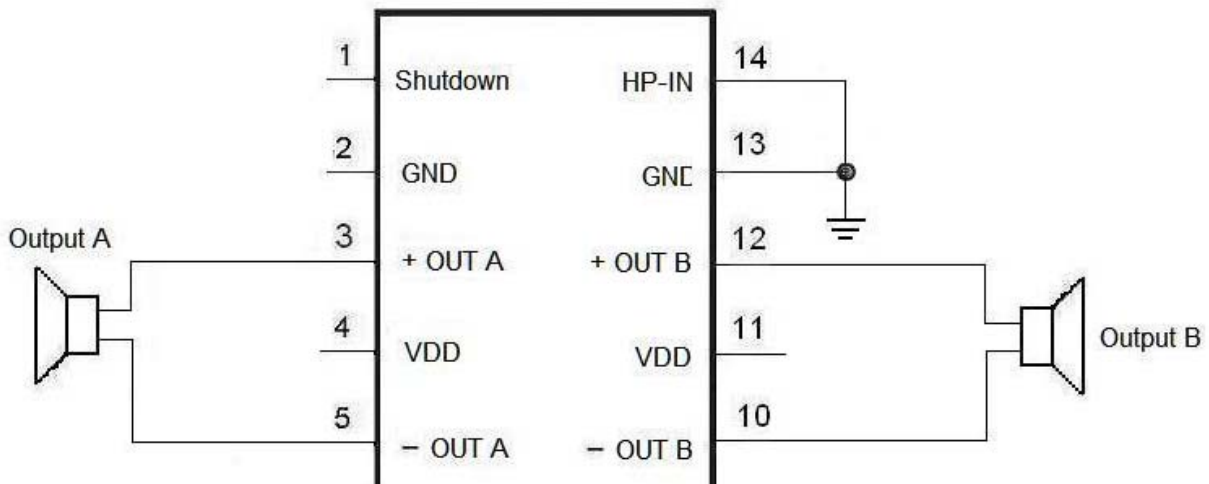

FIGURE 4. Without Headphone Circuit
As outlined above driving the Speaker (BTL) and Headphone (SE) loads simultaneously using LY8663 is simple and easy. However this configuration will only work if the HP Logic pin is used to control the BTL/SE operation and HP-IN pin is connected to GND(Figure 4).